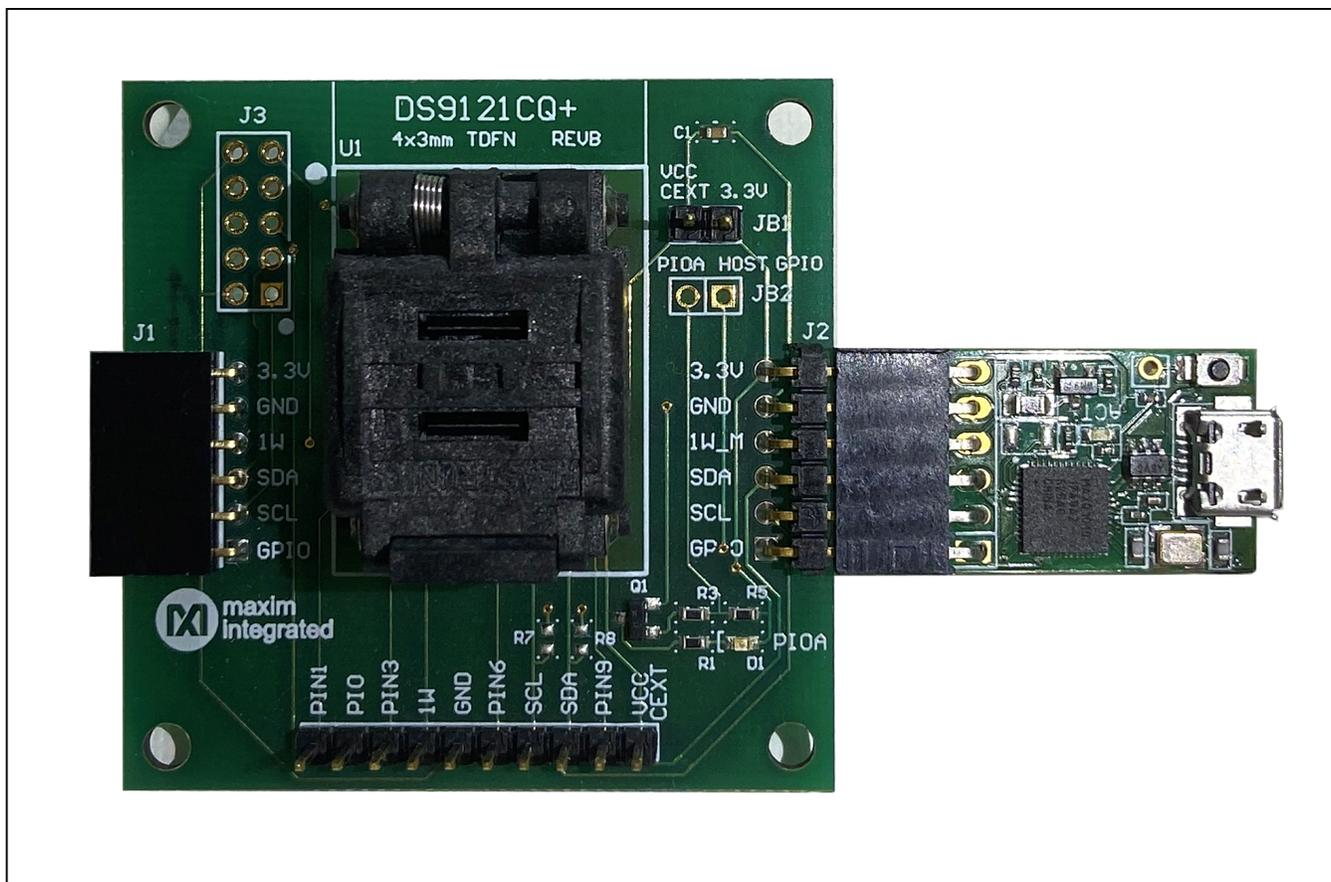

Figure 7. DS9481P-300# and DS9121CQ
- c. Connect the DS9121CQ J2 6-pin male plug into the DS9481P-300# 6-pin female socket per Figure 7.